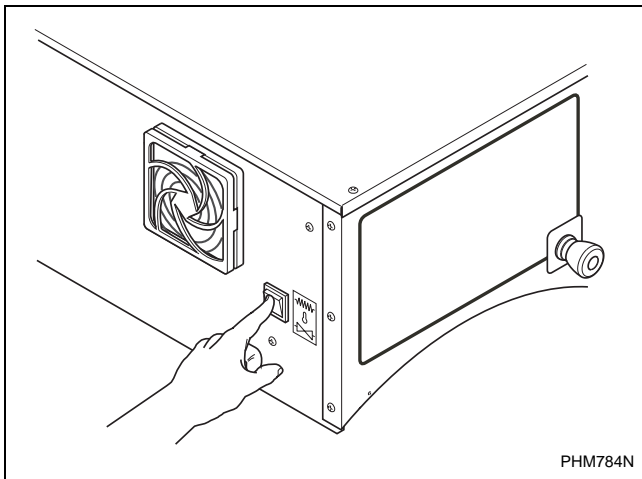

Figure 17
1. To switch between the heating type, locate the switch on the left side of control module. Refer to *Figure 17*.